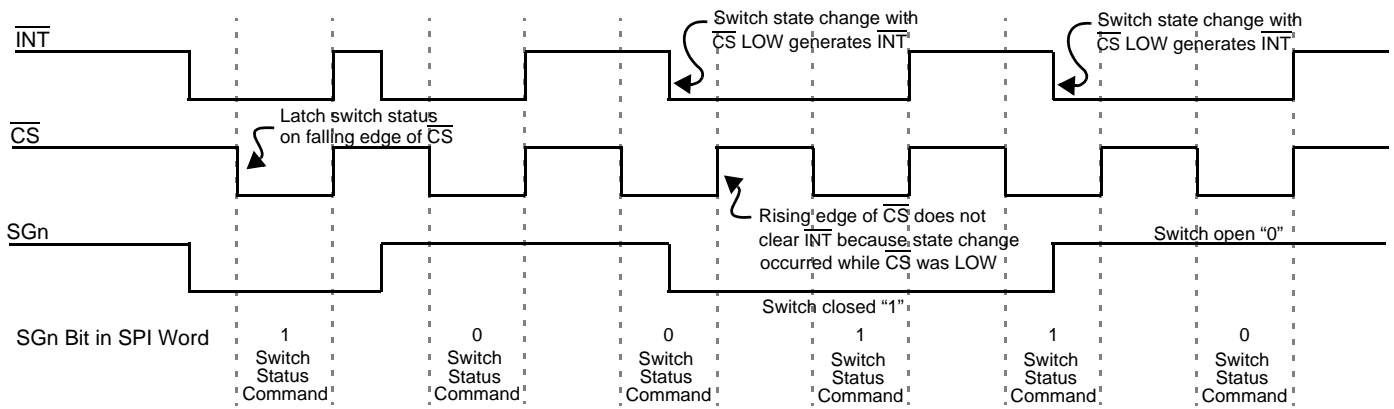

Figure 4. Normal Mode Interrupt Operation
2. \overline{INT} terminal is reset to logic [1], except when additional switch changes occur during \overline{CS} LOW. (See Figure 4 on page 8.)
Figure 4, page 8, is a graphical description of the device operation in Normal mode. Switch states are latched into the input register on the falling edge of \overline{CS} . The \overline{INT} to the MCU is cleared on the rising edge of \overline{CS} . However, \overline{INT} will not clear on rising edge of \overline{CS} if a switch has closed during SPI communication (\overline{CS} LOW). This prevents switch states from being missed by the MCU.